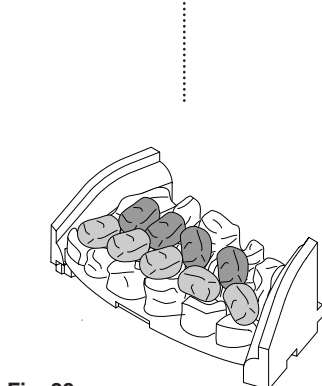

Fig. 29: Diagram showing the burner bracket lip and the rear coal spacer lugs.
6. Place the remaining 4 loose coals between the front loose coals and the rear coal, (flat face downward). Orientation of the coals should be as shown in order to achieve the desired flame picture (Fig. 29).